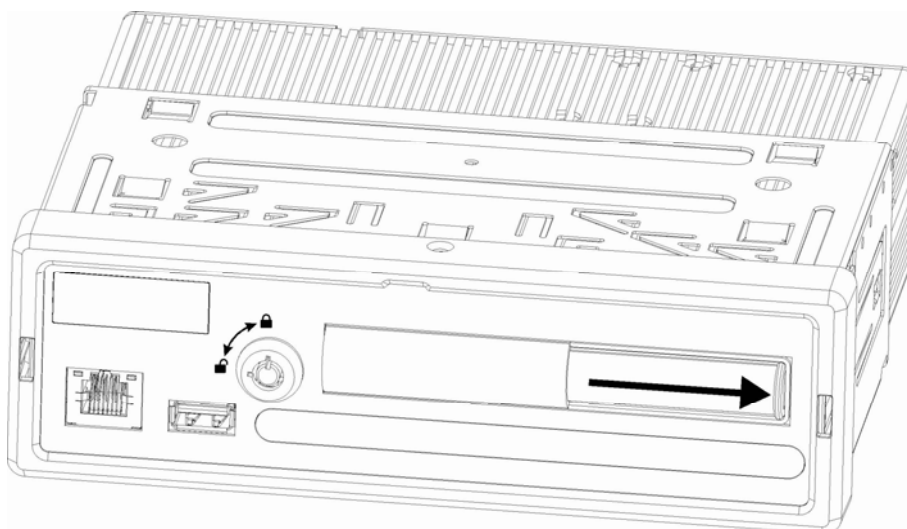

Figure 2-11
3) Lock SD card. Now you can see an interface is shown as below after you firmly inserted the SD card. Please follow the direction arrow in Figure 2-11 to push the plastic handspike and then lock the SD card.